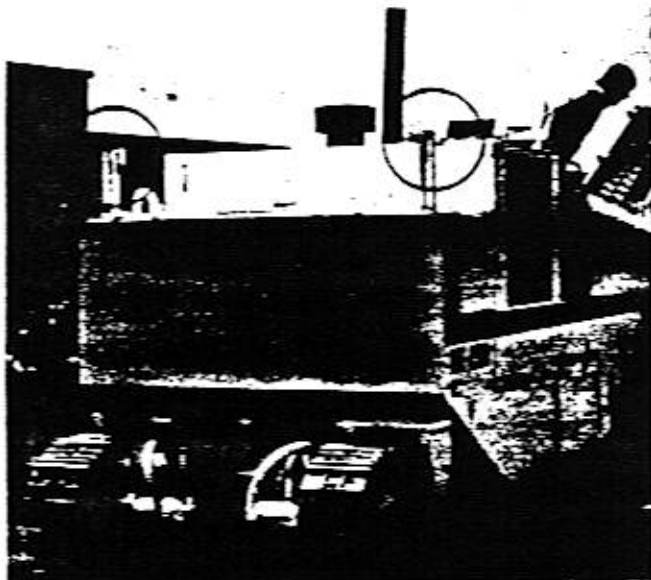

Figure 5-1
3. Lower the rear of the machine until gauge rods are even with top of gauge bars. See Figure 5-1.